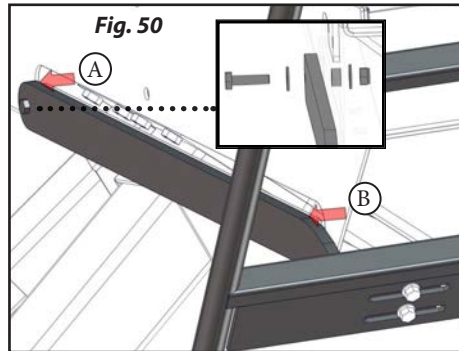

Fig. 50
- Adjust the ladder support leg until it is perpendicular to the ladder itself at point A and point B. (Fig. 50)